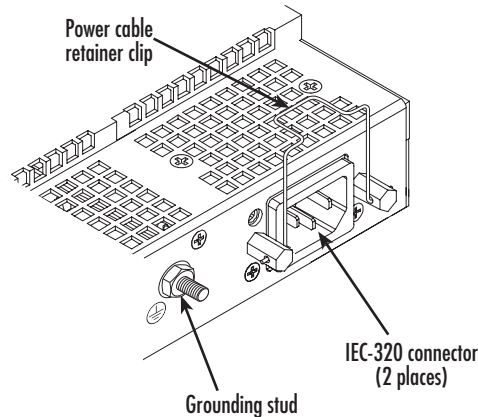

Figure 11. IEC-320 connector and grounding stud locations
2. Install the grounding wire between the grounding stud (see figure 11) and the grounding source.
1. Install the power cable into an IEC-320 connector (see figure 11 on page 31). The AC mains socket outlet shall be within 1 foot (3 meters) of the equipment and shall be easily accessible.